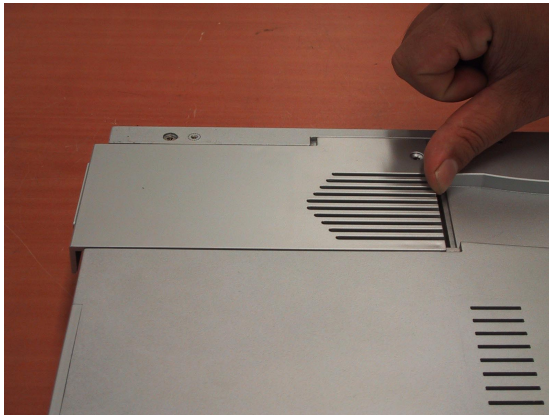

Figure 3-3: Detach the plastic cover of CPU and heat sink
1. Unscrew the screw on the right side for CPU and heat sink cover, slide leftward and detach the cover as shown in Figure 3-3, then you can find one 370-pin CPU socket and one 144-pin SODIMM socket.